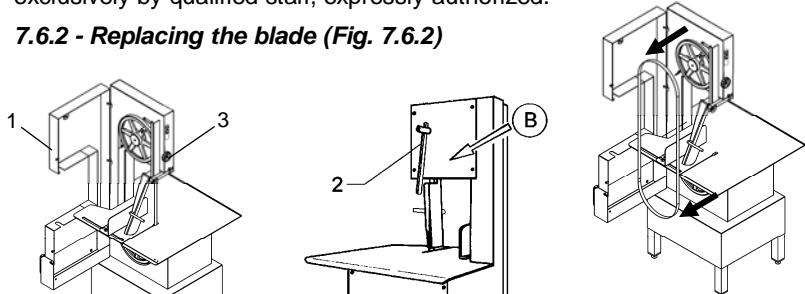

Fig. 7.6.2
7.6.2 - Replacing the blade (Fig. 7.6.2)
- Release knob “2” as indicated in fig. 7.6.2 arrow “B”.